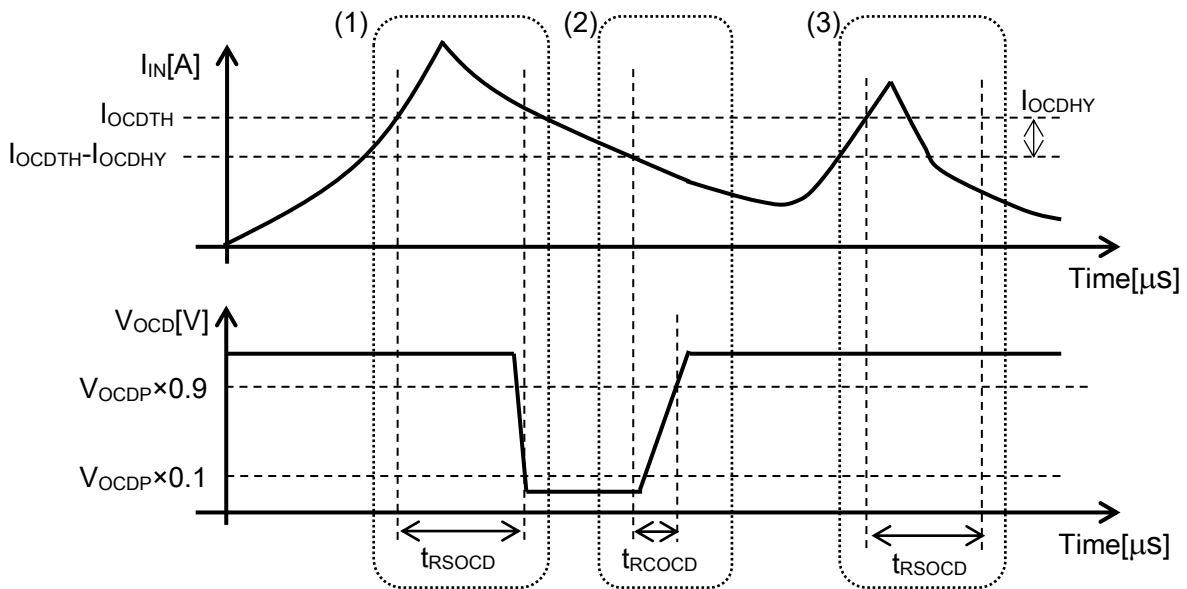

Figure 6. Overcurrent Detection Function of CZ-3A04
**10.4. Overcurrent Detection Function is operated as below. (See figure 6.)**